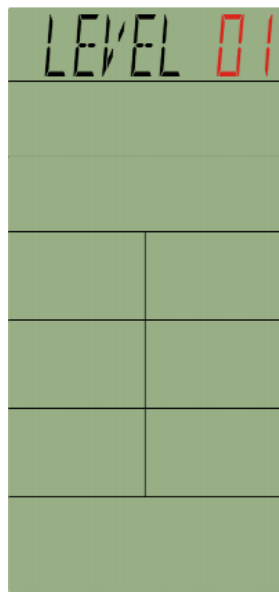
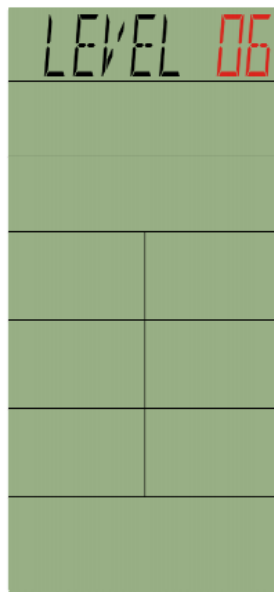

fig. 4
fig. 5
- b. Press UP or DOWN to adjust from L1 to L6, press ENTER to confirm then return to ready mode.(fig. 4-fig. 5)